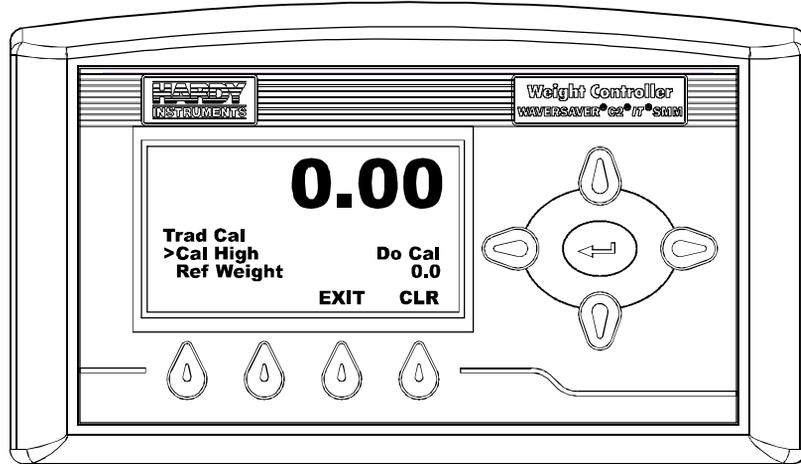

FIG. 316 TRAD CAL MENU/SELECTING CAL HIGH
Step 15. Press the Down Arrow button until the cursor is in front of “Cal High”. (See Fig. 316)